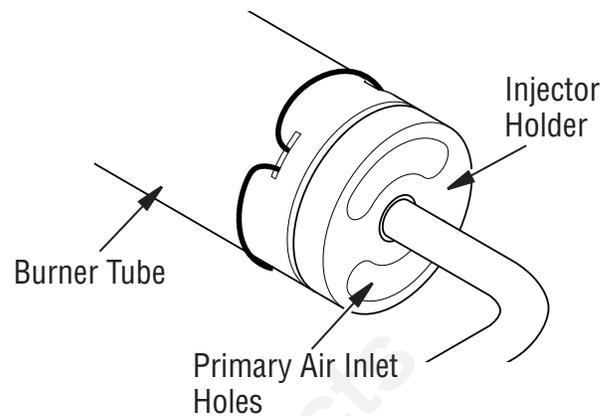

Figure 21 - Injector Holder On Outlet Burner Tube
2. Inspect burner, pilot and primary air inlet holes on injector holder for dust and dirt (see Figure 21).